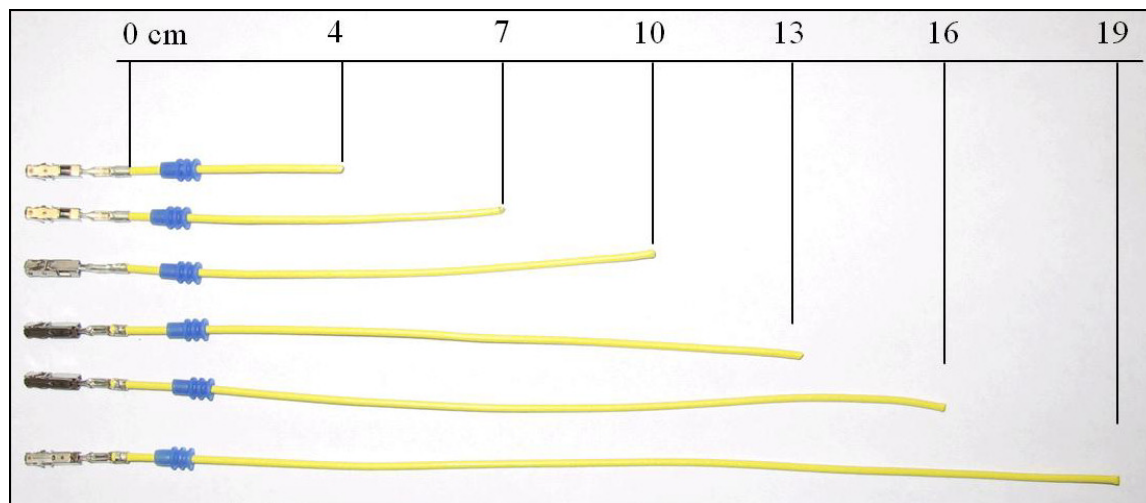

Figure 1. *Correctly preassembled wires and seals.*
- Lengthen wires and preassemble seals according to Figure 1.